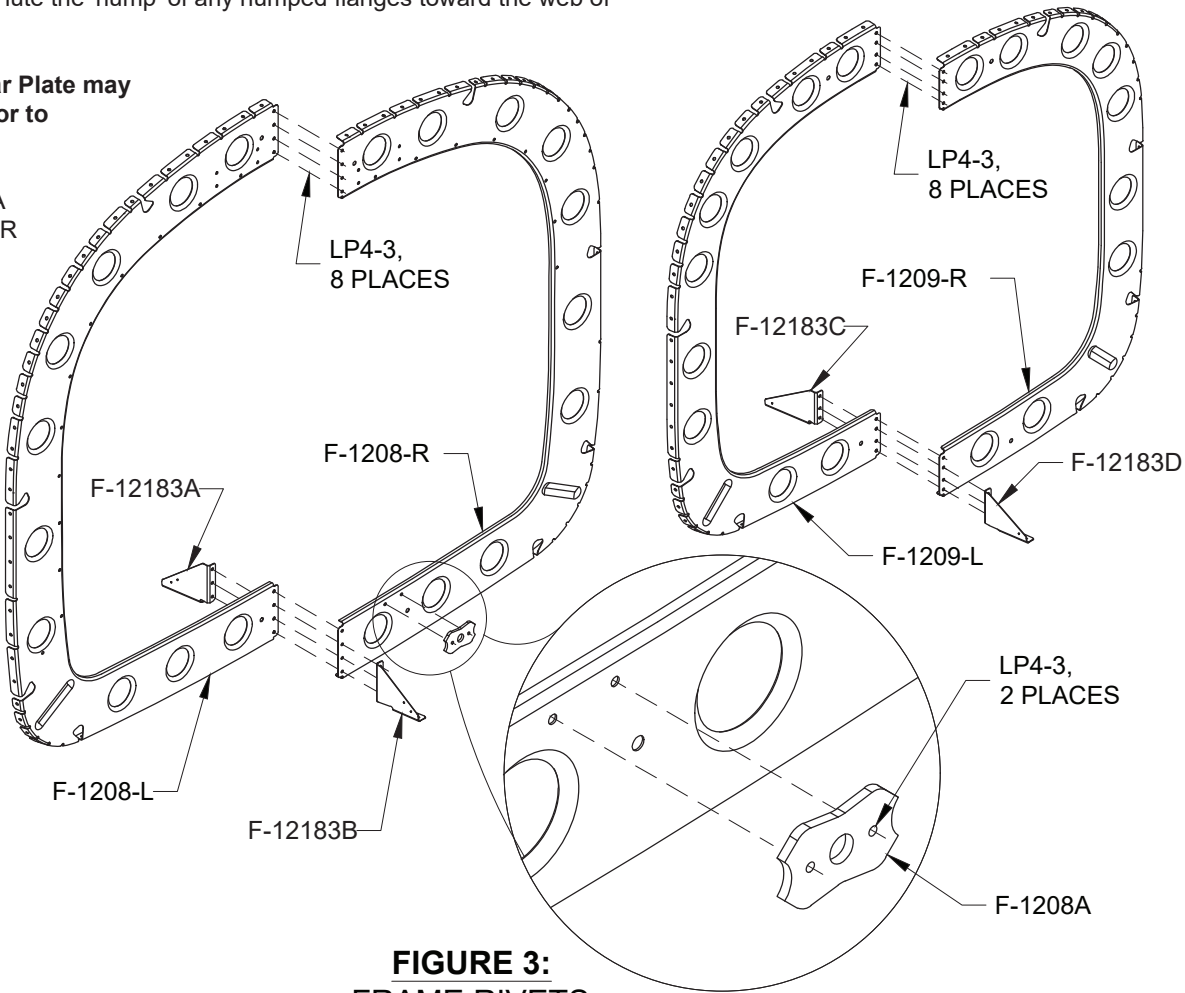

FIGURE 3:
Step 5: Rivet the F-1208A Wear Plate to the F-1208-R Fuselage Frame as shown in Figure 3.
Step 6: Cleco, then, using the rivets called out in Figure 3, rivet the F-12183A & B J-Stiffener Clips and F-1208-L & -R Fuselage Frames. Cleco, then rivet the F-12183C & D J-Stiffener Clips and F-1209-L & -R Fuselage Frames.